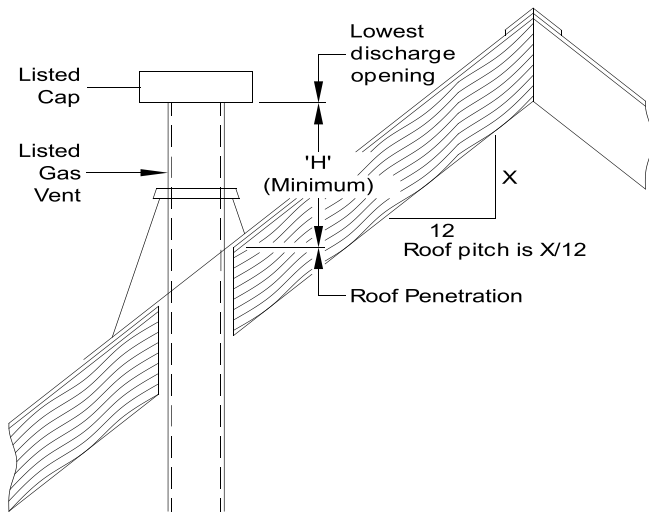

Figure 5-3: Termination Location for Gas Vent
2. For terminations located at least 8 ft. from vertical wall or similar obstruction, termination shall extend above roof in accordance with Figure 5-3.